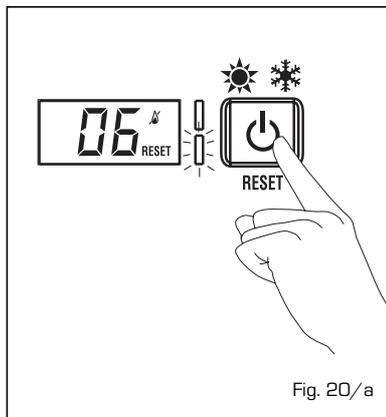

Fig. 20/a
- **SAFETY THERMOSTAT ERROR ALARM 07** (fig. 20/b)